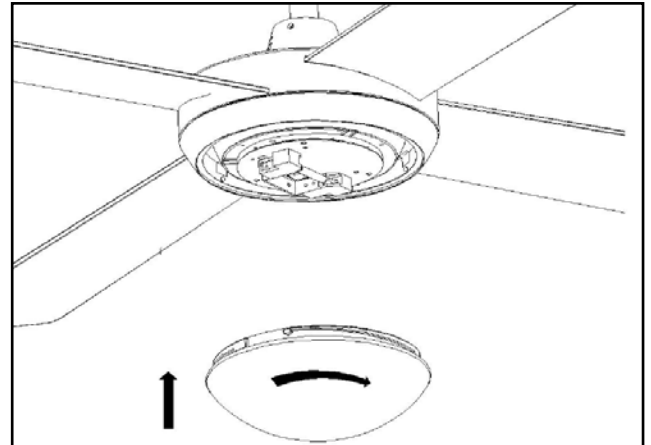

Fig. 13
- Carefully place the glass shade cover over the lamp and twist clockwise to lock it. Fig.13